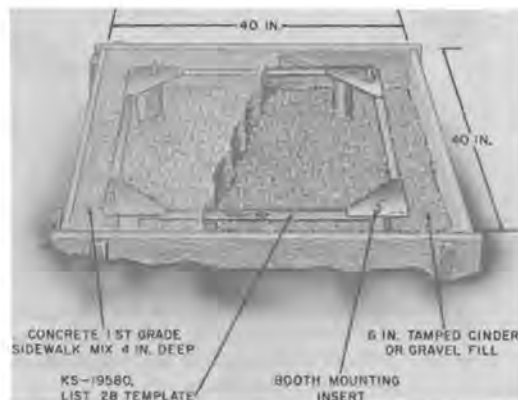

Fig. 14—Concrete Base Preparation with KS-19580, List 28 Template
3.03 When necessary to provide a concrete base, a KS-19580, List 28 foundation template (Fig. 14) is used. Install the template as follows:
- Prepare a form 40 inches square with an inside depth of 10 inches (Fig. 14).
- Position the template in the form on wooden blocks so that the top of four mounting inserts will be flush with concrete base as shown in Fig. 14.